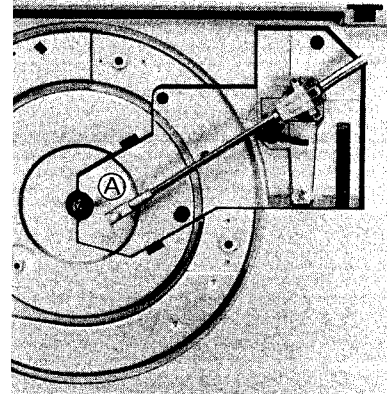

Fig. 7
4. Move the tonearm in direction of the center spindle as shown in Fig. 7.
2. Set the tonearm as in Fig. 7.
**Note:** When remounting the feet ① - ④, mount the feet having slipproof at the front side.